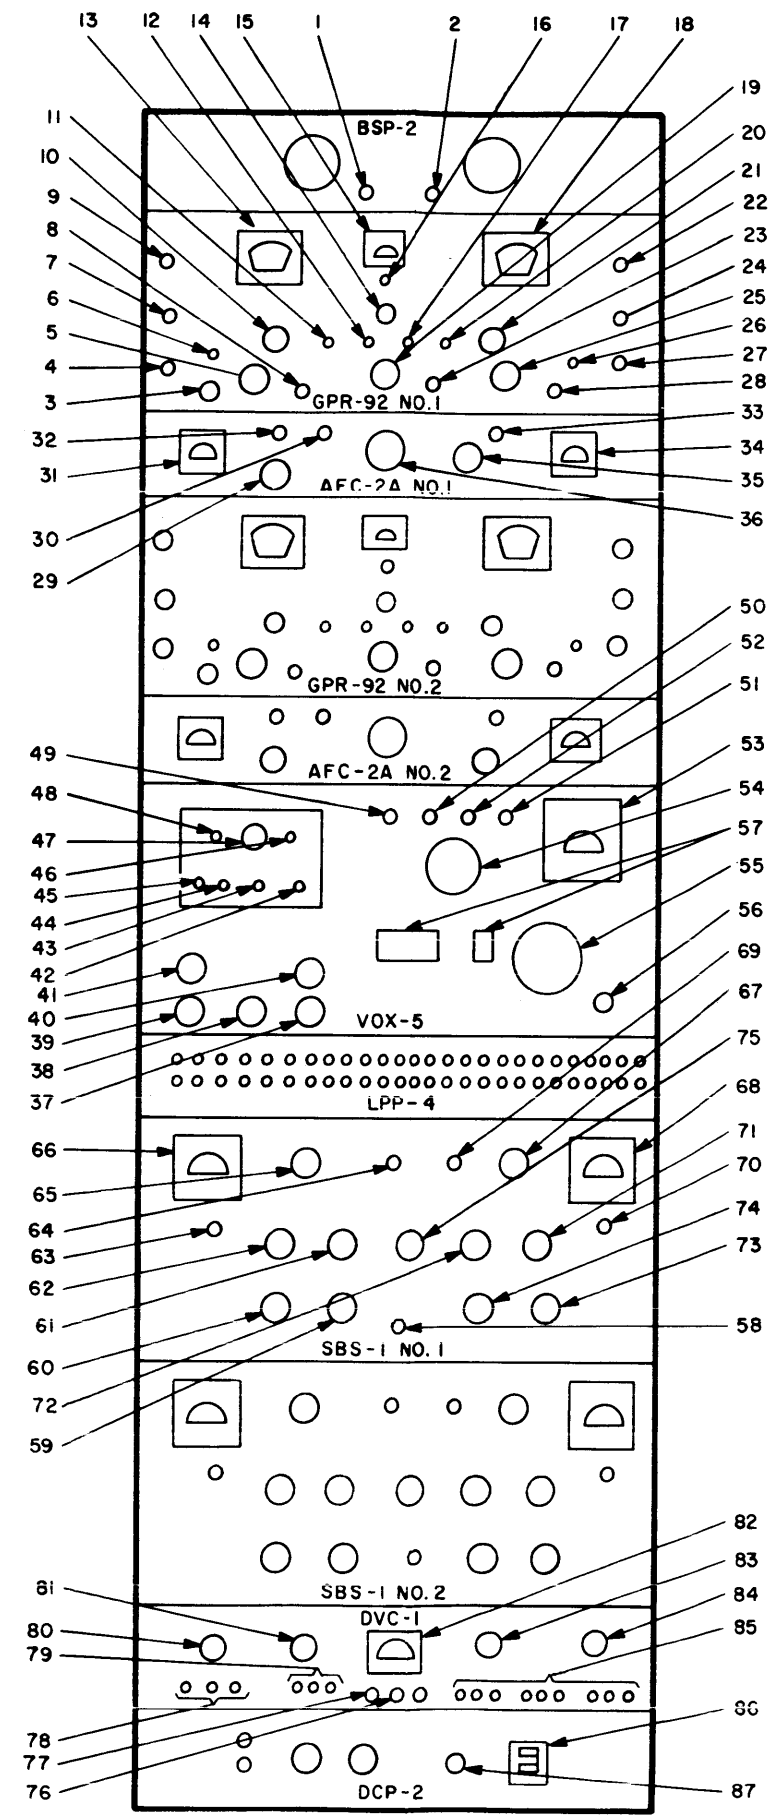

Figure 3-1. Controls and Indicators, DDR-8
a. GENERAL. - As mentioned in paragraph 3-1, only space-diversity operation will be discussed in the following paragraphs. Haphazard operation or improper setting of controls will result in poor reception; for this reason, the operator should first familiarize himself with all controls and indicators on the DDR-8. Refer to figure 3-1 and Table 3-1 for the location and function of DDR-8 controls and indicators, and proceed as described in paragraphs b through h below.
Numbers enclosed in parenthesis are callouts referenced to figure 3-1.
Numbers enclosed in parenthesis are callouts referenced in figure 3-1.